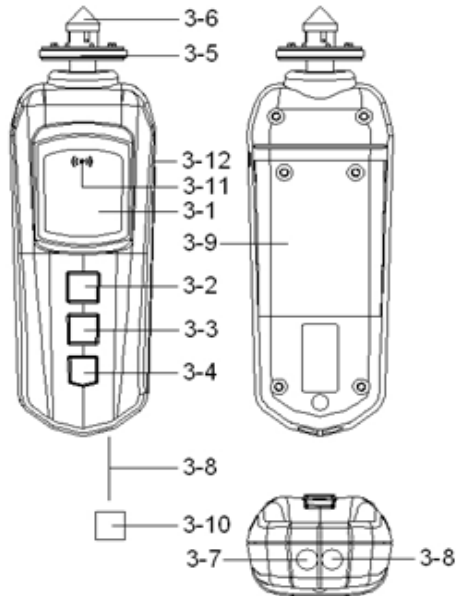

Fig. 1
- 1) Short press the " TEST(Power) Button " (3-2, Fig. 1) once, the meter will power ON,
- 2) Short Press " Function Button " (3-3, Fig. 1) momentarily in sequence, the function will change to
- e. Photo RPM measurement, display shows " RPM " symbol, at the same the " Laser Light Beam " (3-8, Fig. 1) will be generated.
- 2) Align the " Laser Light Beam " (3-8, Fig. 1) with the applied target. Verify that the " Monitor Indicator " (3-11, Fig. 1) lights when the target pass through the light beam.
- 2) Lightly pressing the " RPM Adapter " (3-6, Fig. 1) against the center hole on the hole of the measured rotating axis.
- 2) Simply attaching the " Surface Speed Wheel " (3-5, Fig. 1) to the detector.reading stabilizes (approx. 2 sec.).
- a. First press and hold the " Memory Button " (3-4, Fig. 1) - To display the last value (" LA " and " the last value " will be displayed alternately).
- * To change the batteries, open the " Battery Cover " (3-9, Fig. 1).
- * Make sure the " Battery cover " (3-9, Fig 1) is secured after changing the batteries.
The instrument has RS232 PC serial interface via a 3.5 mm terminal (3-12, Fig. 1).